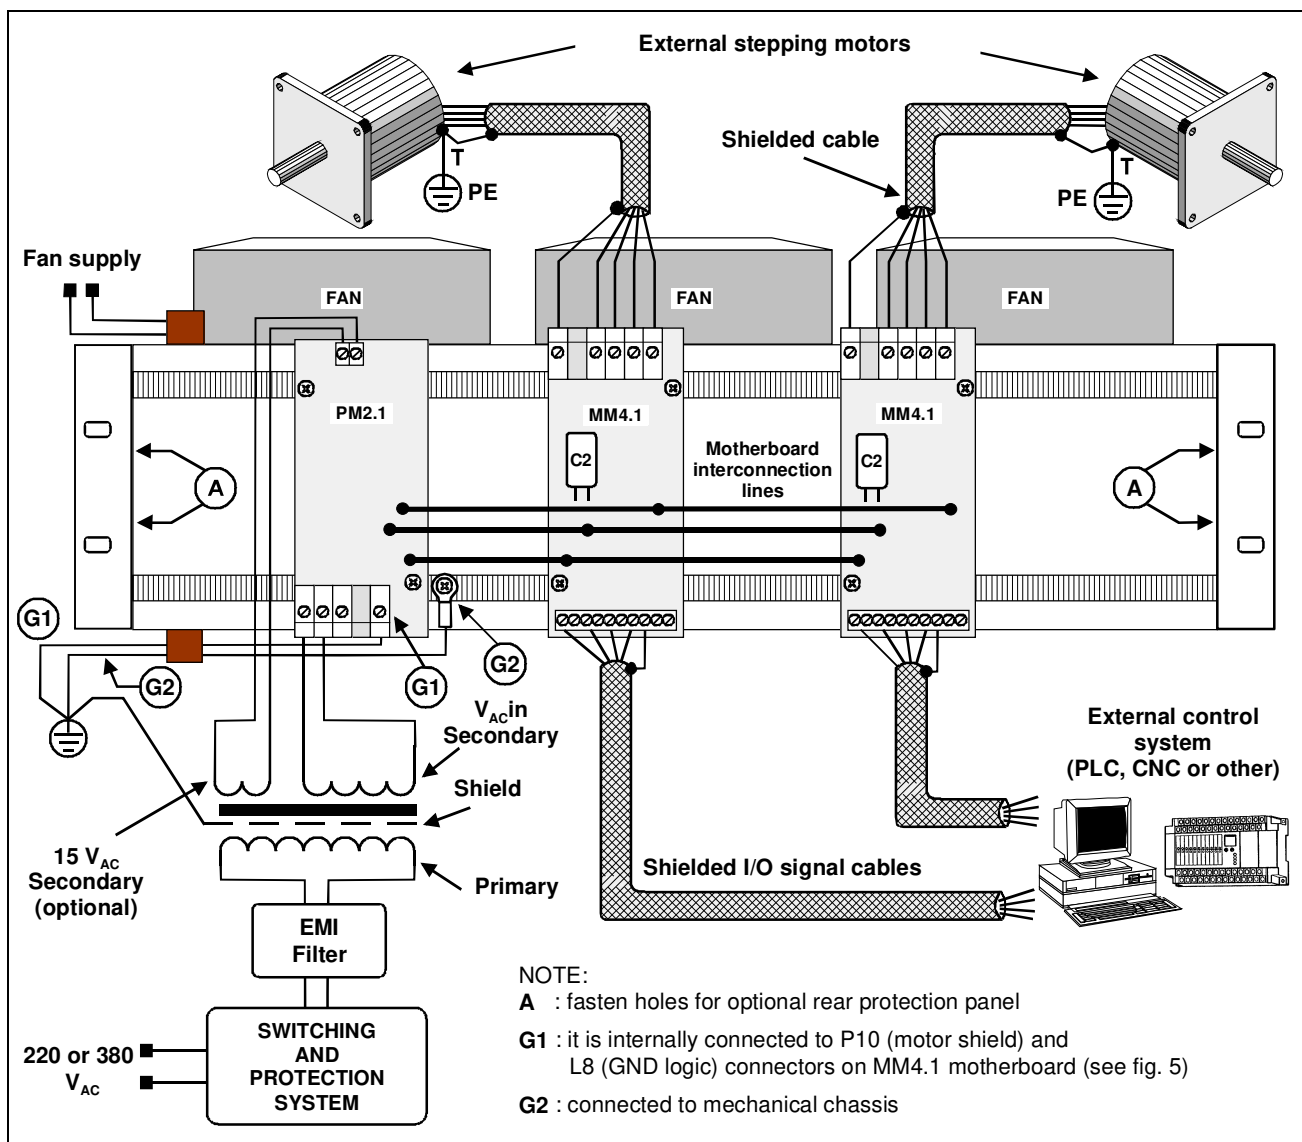

Fig. 7 RACK REAR VIEW
- 8.1 - RTA can supply, in order to house GMD series drives, pre-assembled, 3 Units EUROPA racks of 10.5", 12.5" and 19". The racks are fitted with a Power Supply and a variable number of places for drives upon customer's request. A complete rack is composed from following parts (fig. 7):
8.8 - In Fig. 7 are shown connection diagrams of a complete rack set-up (one Power Supply, two drives and three fans) with external elements (motors, control system and transformer). As far as regards input and output logic signals, refer to chapter 4 and 5. In order to simplify the drawings, in the figure a single phase transformer is shown. When you use a three-phase transformer, obviously, you have to use also the third screw connector of PM2 motherboard; in this case the transformer secondary has to be triangle connected. With rack configurations without power supply, the PM2 motherboard is not present and thereby the user must make the necessary connections between the supply lines of MM4 motherboard and its own external supply. Dimensioning criteria are the same indicated in the chapter 7.